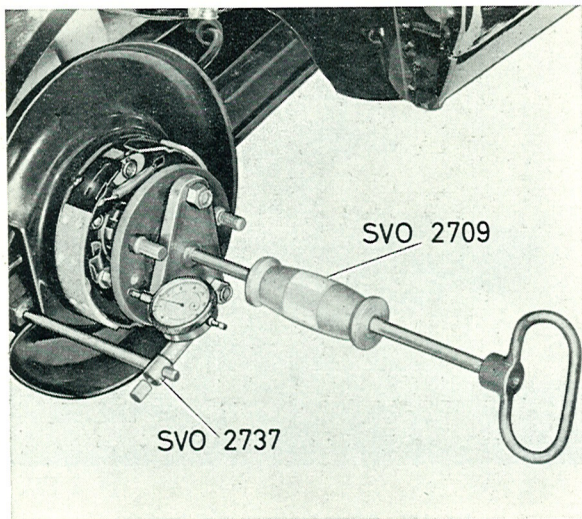

Fig. 4-87. Measuring the drive shaft end play
13. Pack the bearing well with a high-class multi-purpose grease and then fit the drive shaft, the brake backing plate and brake shoe retainers. After fitting, the entire space between the oil seals should be filled with grease, see Fig. 4-86. Check the end play, which should be 0.05—0.13 mm (0.002—0.005"), with dial indicator and retainer SVO 2737, see Fig. 4-87. First press out the outer rings in their bearings with the help of the impact hammer on tool SVO 2709. Adjust if required. To do this use tool SVO 2708, see Fig. 88. Lock the adjusting nut with suitable tab.